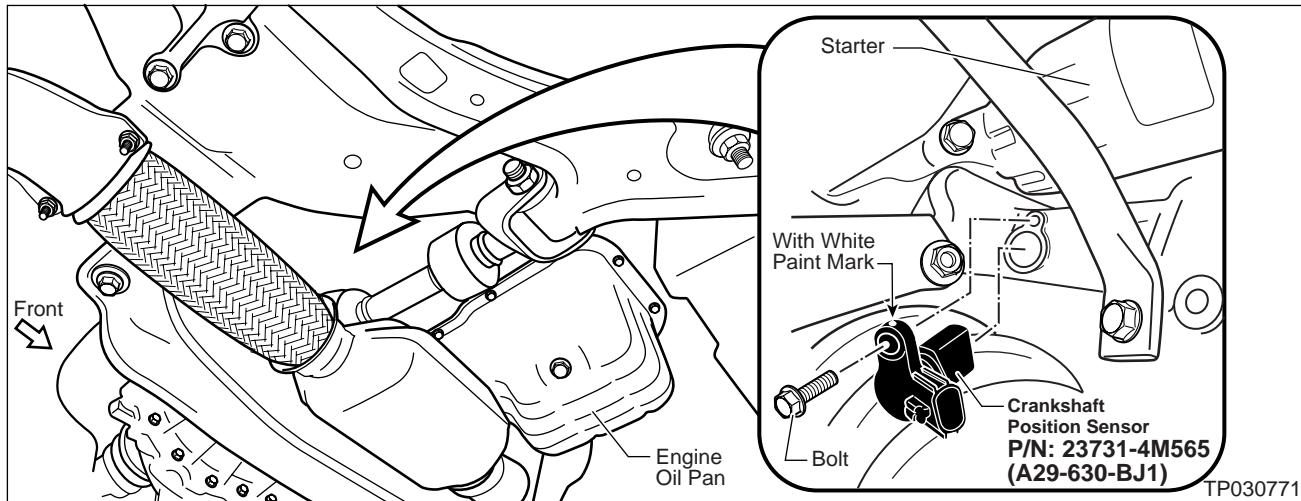

Figure 2
\* This sensor has a white paint mark on it (see Figure 2).
2. Locate the **Crankshaft Position Sensor** (see Figure 2).